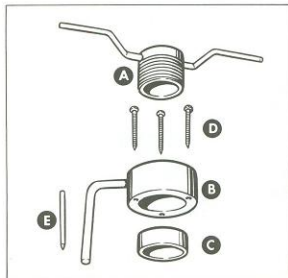
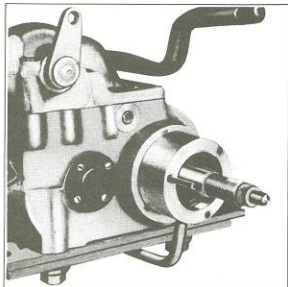

Figure 4-7. Main Drive Gear Oil Seal Tool
Figure 4-8. Centerpunching Screw Hole Locations
Main Drive Gear Oil Seal Tool, Part No. 95660-42, (Figure 4-7) enables removing worn or damaged oil seal and installing new seal without removing or disassembling transmission. It may be used on transmission removed from chassis as well. To use, transmission must be assembled with the exception of clutch and countershaft sprocket.
Place sleeve (C, Figure 4-7) on end of main drive gear. Slide body (B) over sleeve with body stop rod downward. Turn body clockwise until stop bears against transmission case or mounting plate. Hold body in this position and insert center punch (E) through each of the three holes in body and center punch oil seal as shown in Figure 4-8.
Insert sleeve (C, Figure 4-7) into oil seal. Place sleeve and seal on main drive gear with lip side of seal toward transmission case. Turn seal so it will not stake at same points old seal was staked.